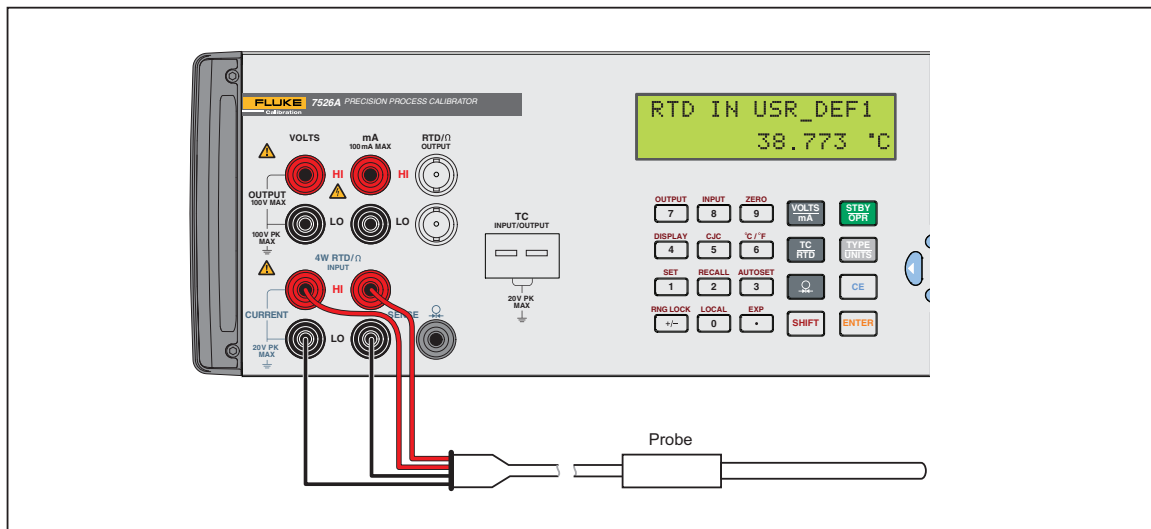

Figure 4-11. Precision Temperature Measurement with Probe
5. Connect the probe as shown in Figure 4-11.